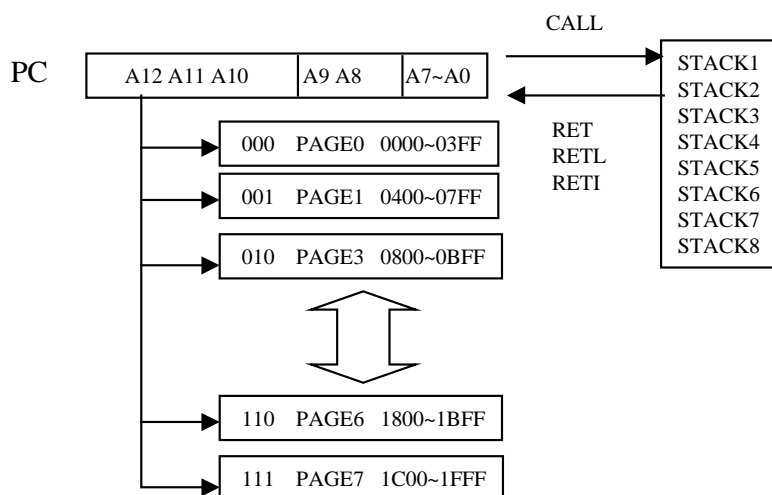

Fig.4 Program counter organization
* The structure is depicted in Fig. 4.